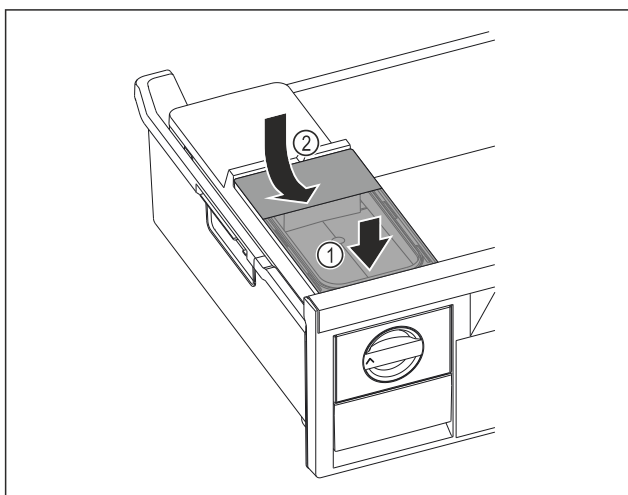

Fig. 63
- ▶ Position the water tank at the front. Fig. 63 (1)
- ▶ Lower the water tank at the rear. Fig. 63 (2)